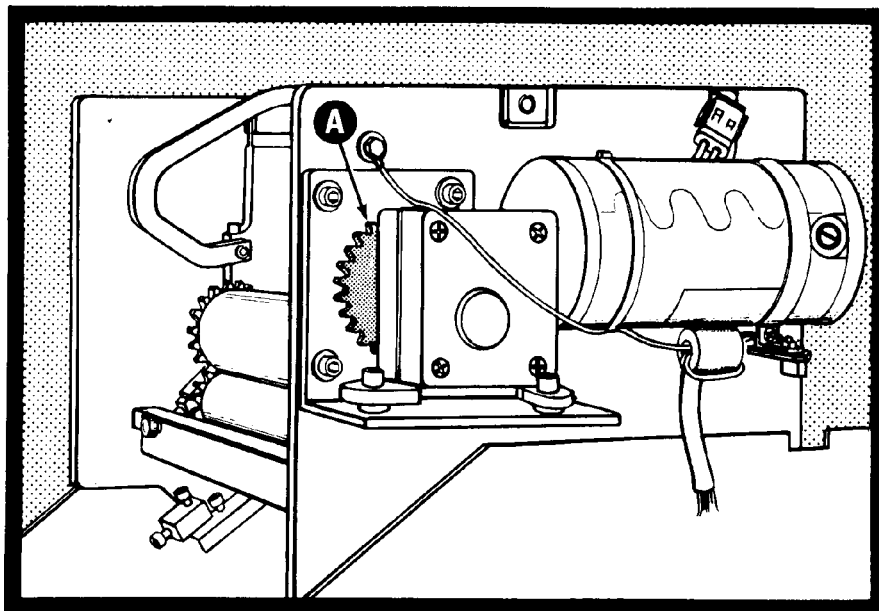

Figure 96 - Dampener Motor
2. Locate the drive gear (A) (Figure 96) and mark a tooth with bright chalk (for checking RPM).
4. Turn on the press drive motor. The dampener motor will also come on and turn drive gear (A) clockwise (as viewed from the non-operator side) (see Figure 96).
- a. At position "0" the dampener motor should run drive gear (A) at 20 to 25 RPM. Check the RPM by counting the RPM of the bright chalk mark on the drive gear tooth mentioned above (see Figure 96).